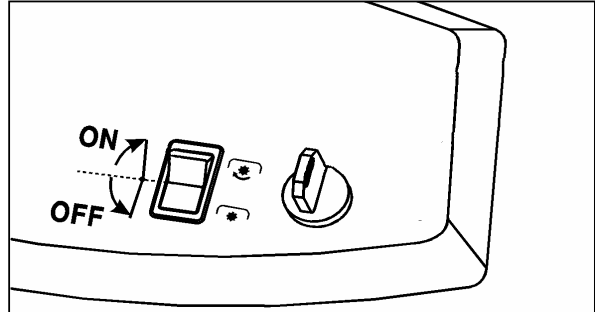

Fig. 12
Toggle switch cutting system (Fig.12).
- Check that the "cutting system" is in the OFF position (Fig. 12).